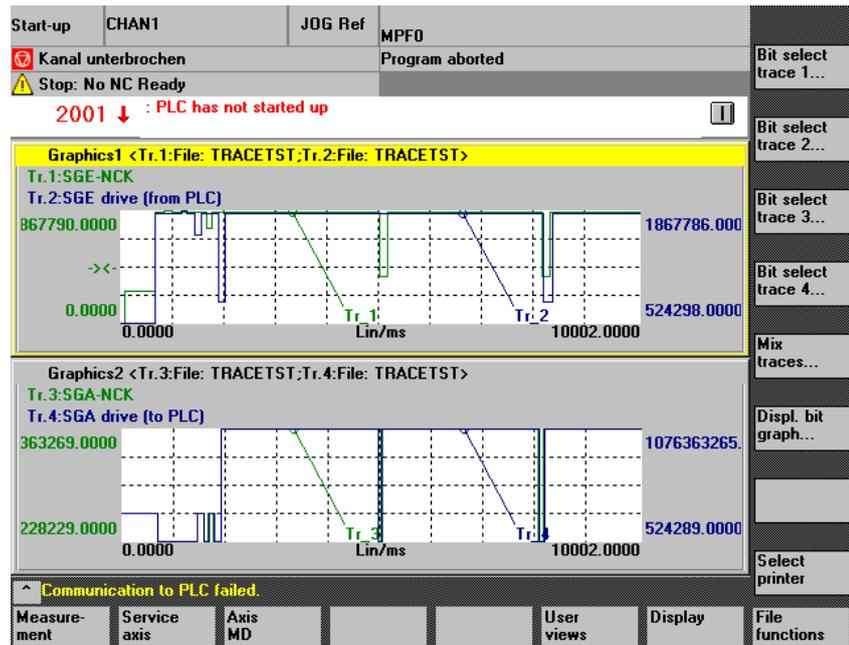

Fig. 10-14 Selected bit-coded SI signals
**Mix traces soft key** The soft key can be accessed from Fig. 10-14. This gives the following screen:
The soft key can be accessed from Fig. 10-14. This gives the following screen: